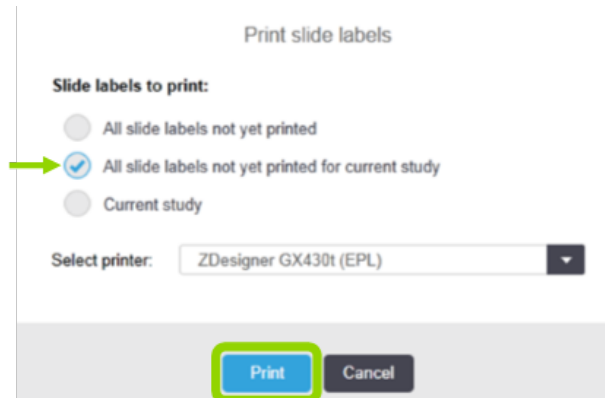

Figure 67: Print slide labels window
10. In the **Print slide labels** window (see Figure 67), select **All slide labels not yet printed for current study** and click on **Print**.